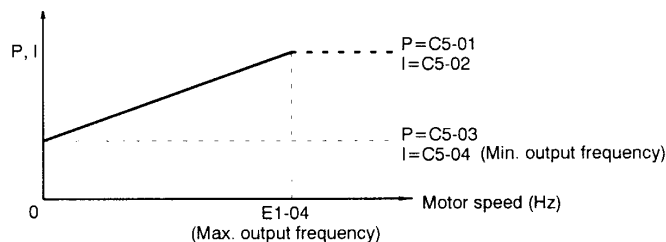

Figure 6.22 Minimum Output Frequency Gain Settings
- Figure 6.22 shows how the proportional gain and integral time are calculated from constants C5-01 through C5-04.